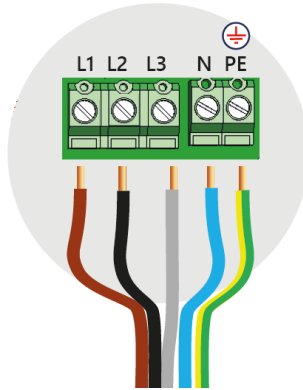

Figure 19: Connecting wires to the terminal block
8. Connect the wires of the AC cable according to the labels on the AC terminal block of the inverter (see *Figure 19*). Tighten the screws of the Terminal Blocks of 1.2-1.5 N\*m.